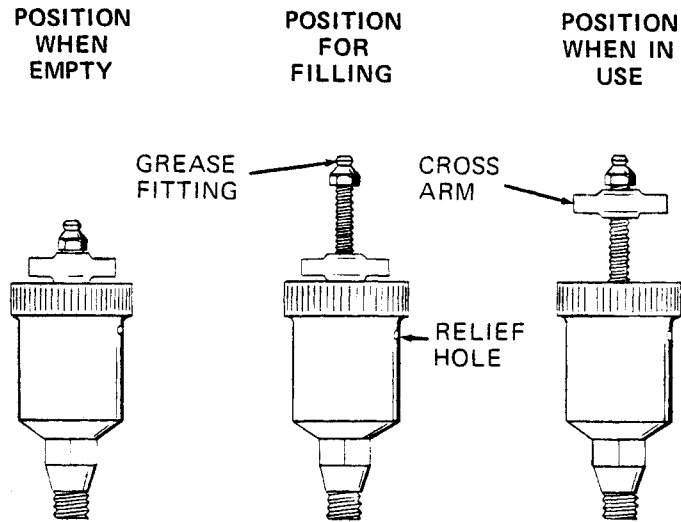

Figure 4. Automatic Lubricating Grease Cup
Before removing the seal assembly, turn the cross arm on the seal grease cup (8) clockwise until it rests against the cover (see figure 4). This will prevent the grease in the cup from escaping after the seal is removed.
Before starting the pump, fill the grease cup through the grease fitting with a good grade of No. 2 pressure gun grease until grease escapes from the relief hole. Turn the grease cup arm counterclockwise until it is at the top of the stem; this will release the spring to apply grease to the seal (see figure 4).